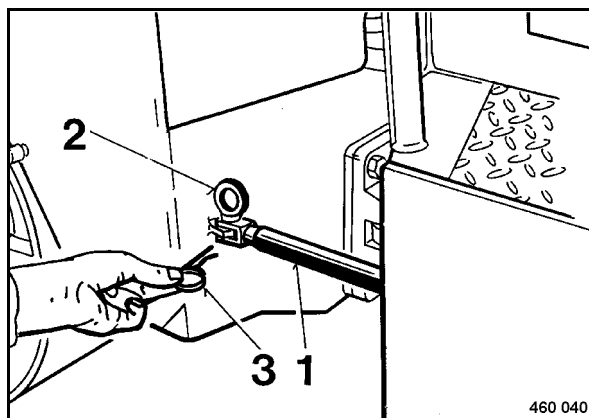

Fig. 73
- After driving the machine on the transport vehicle swing the articulation lock 1 (Fig. 73) out of its receptacle to the front. Insert the pin (2) and secure it with the cotter pin (3).